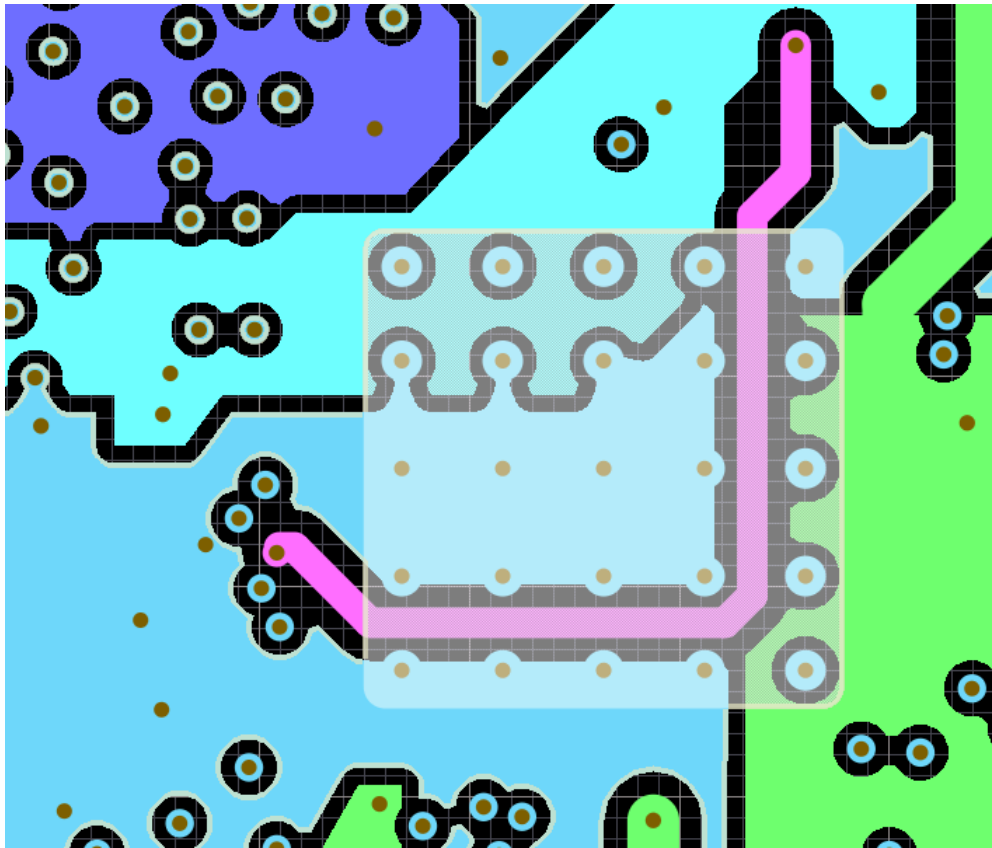

Figure 3-9. Reference Layout of the Power Layer (Layer 3)
- VDD_DIG_IN (pin 10) and DIG_LDO_OUT (pin 47) must be shorted together on a layer that is not the top layer or ground layer (place it on layer 3 or 4). This way the power path cannot interrupt the RF trace on top layer (layer 1) or the continuous ground layer (layer 2). For a visual reference, see Figure 3-9. The decoupling capacitor should be close to pin 47.
Figure 3-9 is sampled from the LP-EM-CC35X1 design files.